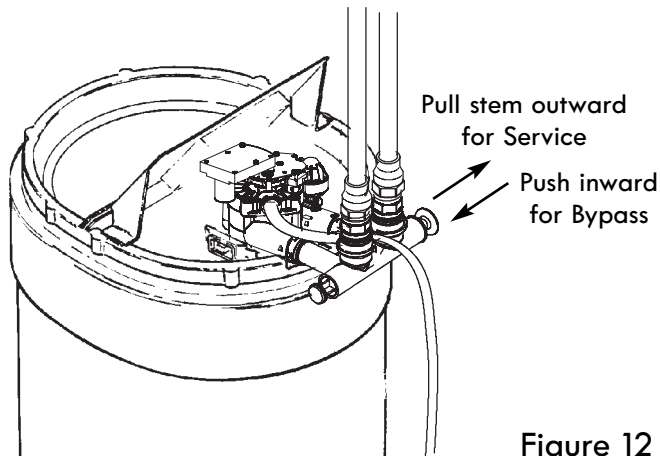

Figure 12
2. Place bypass valve(s) in "bypass" position (see Figures 12 & 13). On a single valve, slide the stem inward to bypass. On a 3-valve bypass, close the inlet and outlet valves and open the bypass valve.